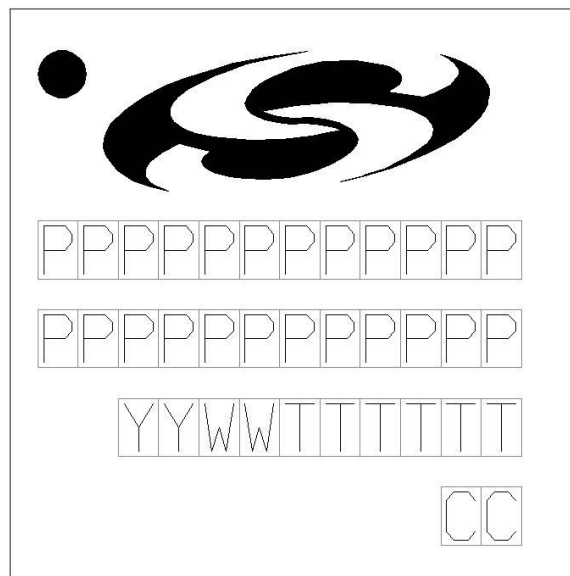

Figure 8.5. ZGM230S Top Marking
- Updated Figure 8.5 ZGM230S Top Marking on page 45